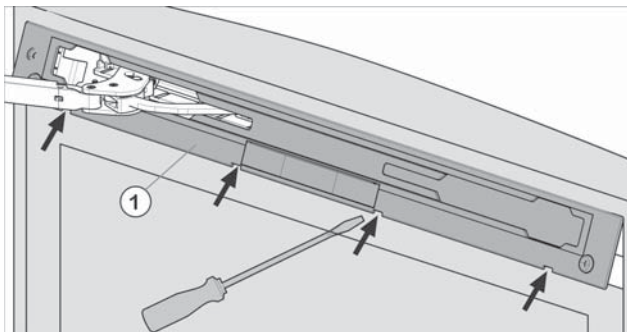

Fig. 54
- Release panel Fig. 54 (1) using slotted screwdriver and remove.